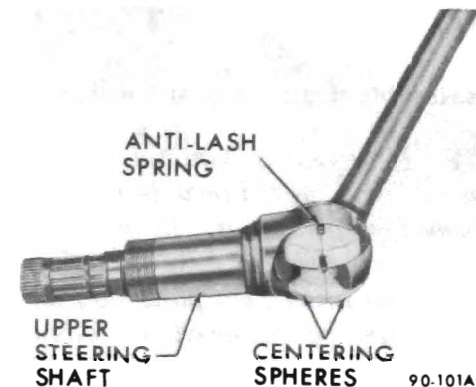

Figure 90-141 - Steering
22. Disassemble steering shaft assembly by removing centering spheres and anti-lash spring. See Figure 90-141.